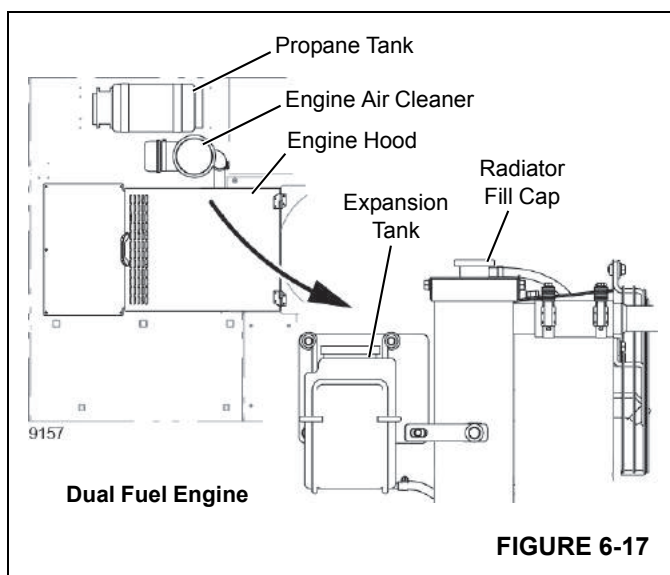

FIGURE 6-17
3. For Dual-Fuel Engine (Figure 6-17):